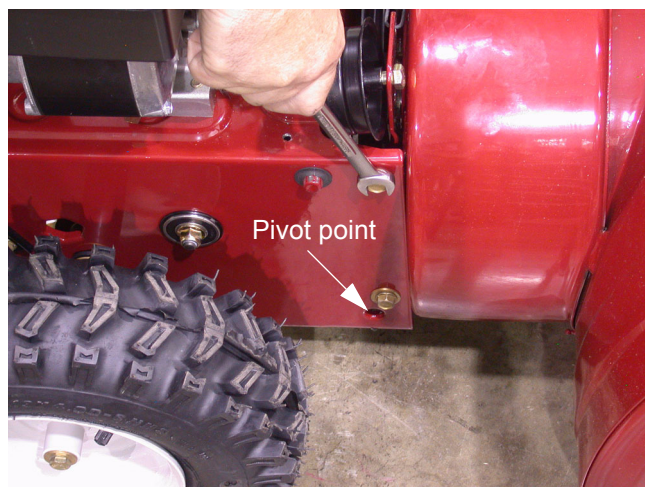

Figure 14.1
- 14.1. Remove the screws that fasten the auger housing to the rear portion of the snow thrower with a 1/2" wrench. See Figure 14.1.